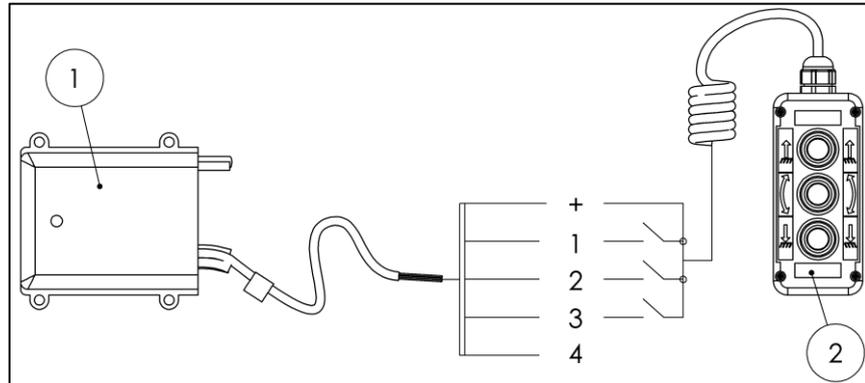

Fig. 49
- Connect the cable from the handheld control (2) to the stripped control unit cable section (1) with the red marking at the installation location (see Fig. 49).